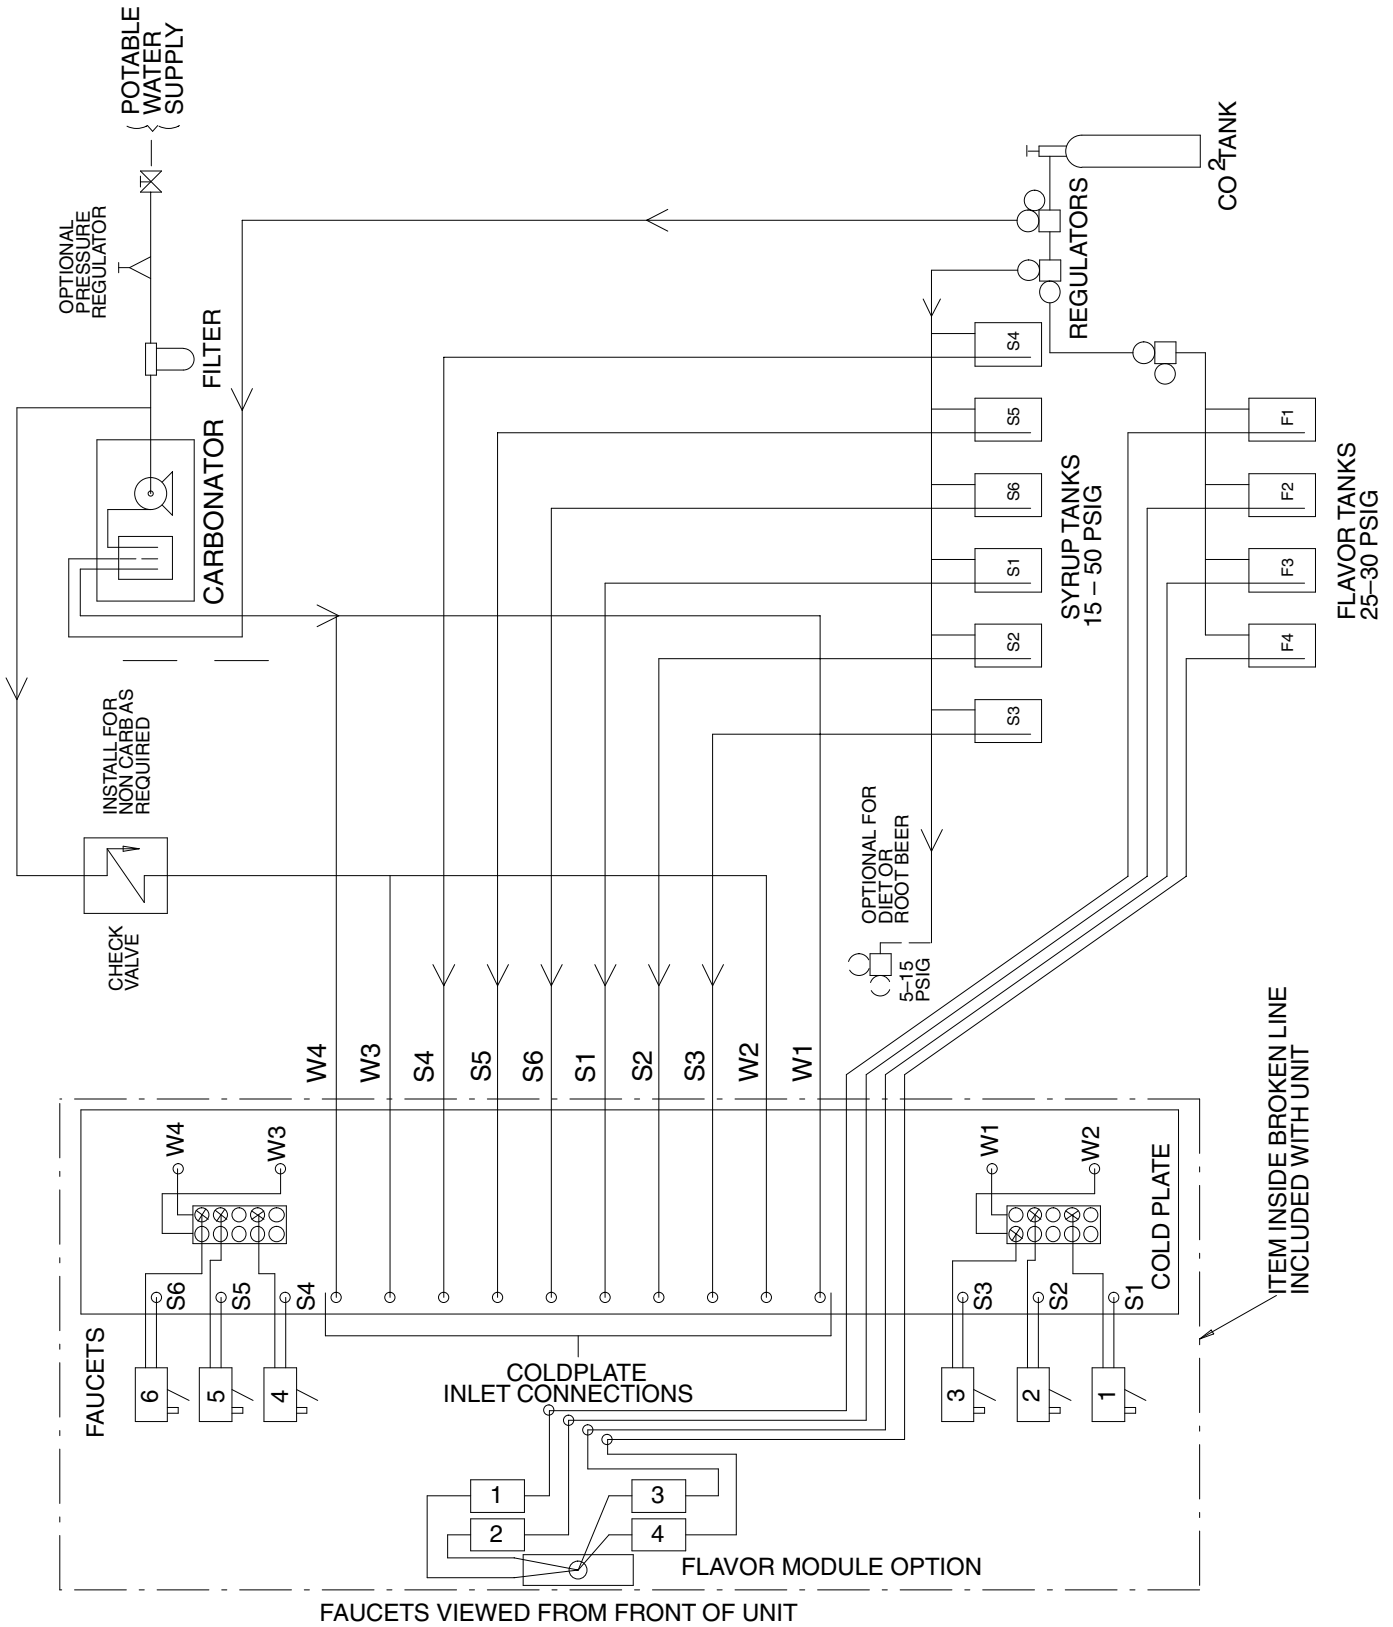

FIGURE 5. PLUMBING DIAGRAM (BC MODEL)
| FIGURE 5. PLUMBING DIAGRAM (BC MODEL) .....        | 8  |
**NOTE: See applicable Plumbing Diagram (see Figure 5 or 6) or Decal on the lower front panel of the unit for the location of syrup and water connections.**